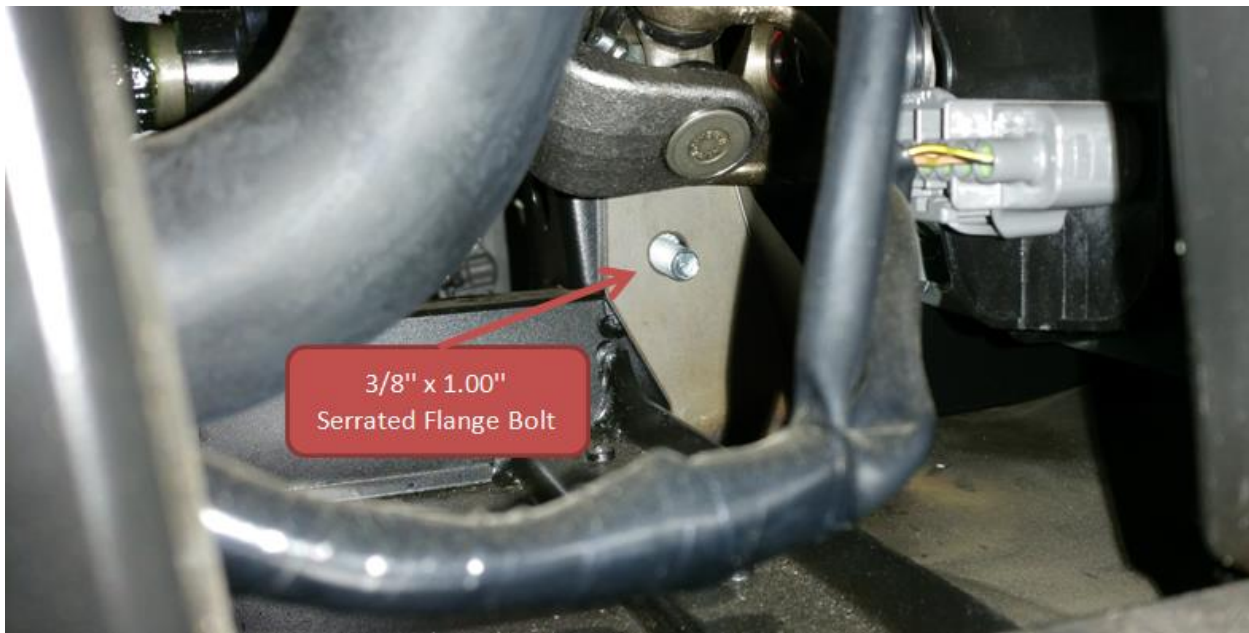

Figure 4
2. Position the Plow Mount (part 1) over the front of the frame. Insert two of the 3/8"-16 x 1.00" Serrated Flange Bolts (part 3) into the rear supports as shown in Figure 4 and tighten. **Please Note:** weld nuts are engineered on the Plow Mount